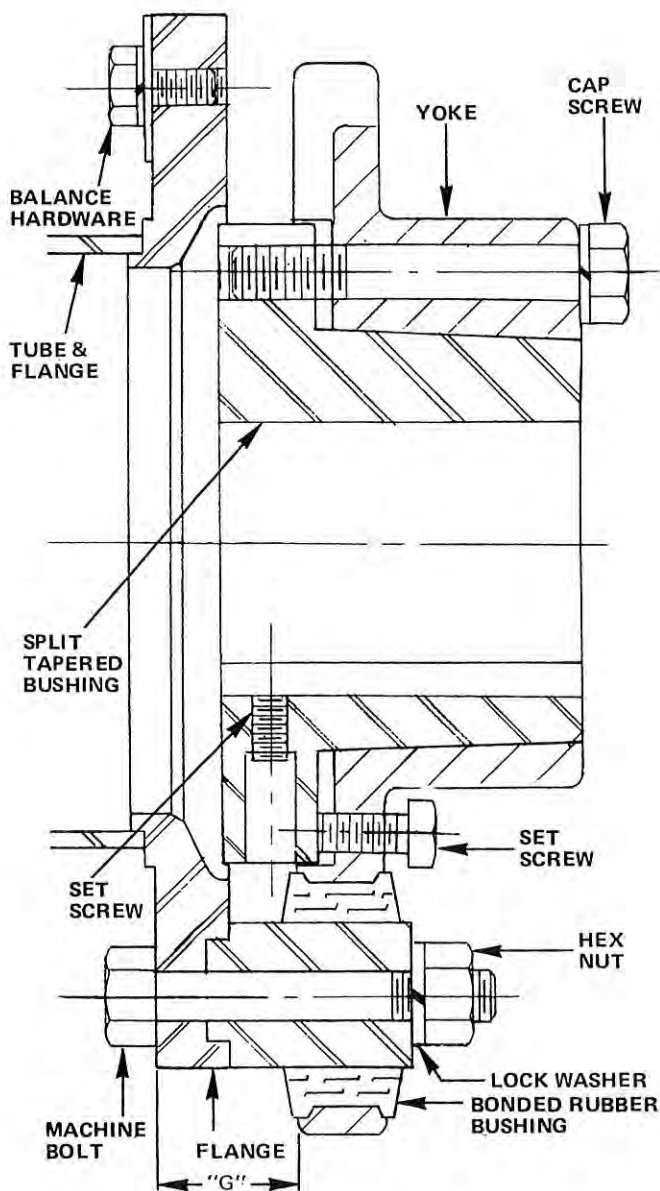

Figure 3. Sectional Details of Drive Shaft Assembly
"G" dimensions (Figure 3, page 4) are furnished for each new drive shaft on the "Drive Shaft Installation Data Form" (E-2517) included with this manual.
Check "G" dimensions (Figure 3) using a depth micrometer. Final average "G" dimensions shall be within  $\pm 0.010$  inches of the "G" dimension given on the "Drive Shaft Installation Data Form" included with this manual or previously determined for an existing drive shaft.
2. Support the drive shaft only at two points on the tube at each end just inboard of the flanges. Measure the "G" dimension (Figure 3) at two positions 180° apart and average the two dimensions (add the two measurements together and divide by 2). Do this for both couplings.